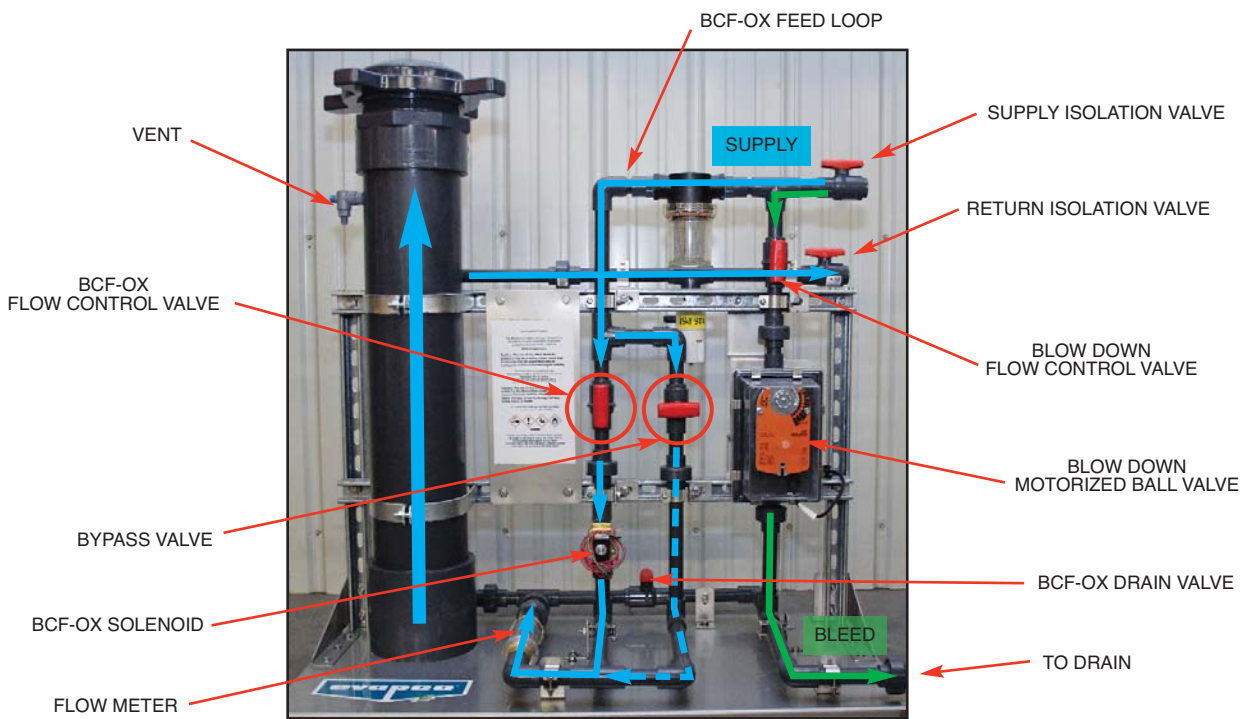

Figure 25 – BCF-OX Flow Path during Feed or Bleed
- 8.2.1 Open Supply and Return Isolation Valves. See Figure 25. The flow control valves should **NOT** be used to isolate piping.
The **BCF-OX** module is equipped with isolation valves and a vent for draining. A 125 psi (860 kPa) pressure relief valve is located in the **BCF-OX** feed loop downstream of the feeder. The controller must be programmed to energize the feed solenoid per EVAPCO's site specific recommendations. Biocide release from the feeder can be controlled by adjusting the feed duration and/or the flow rate through the feeder. The **BCF-OX** module is also equipped with a motorized ball valve for system bleed. See Figure 25.
The recirculating water from the high pressure side (pump discharge) flows into the **BCF-OX** feed loop (indicated by blue arrows in Figure 25) from the supply through the 20 mesh strainer, and then to the **BCF-OX** Flow Control Valve and Solenoid. When the controller's timer initiates feed, the **BCF-OX** Solenoid is energized allowing flow through the feeder and back to the low pressure side (pump suction) of the recirculating water system. The Bypass Valve remains closed. When the system's conductivity exceeds the programmed set point, the controller initiates bleed. During system bleed, flow is diverted through the Blow Down Motorized Ball Valve and to drain (indicated by green arrows in Figure 25). Bleed flow is set using the Blow Down Flow Control Valve. See Figure 25.